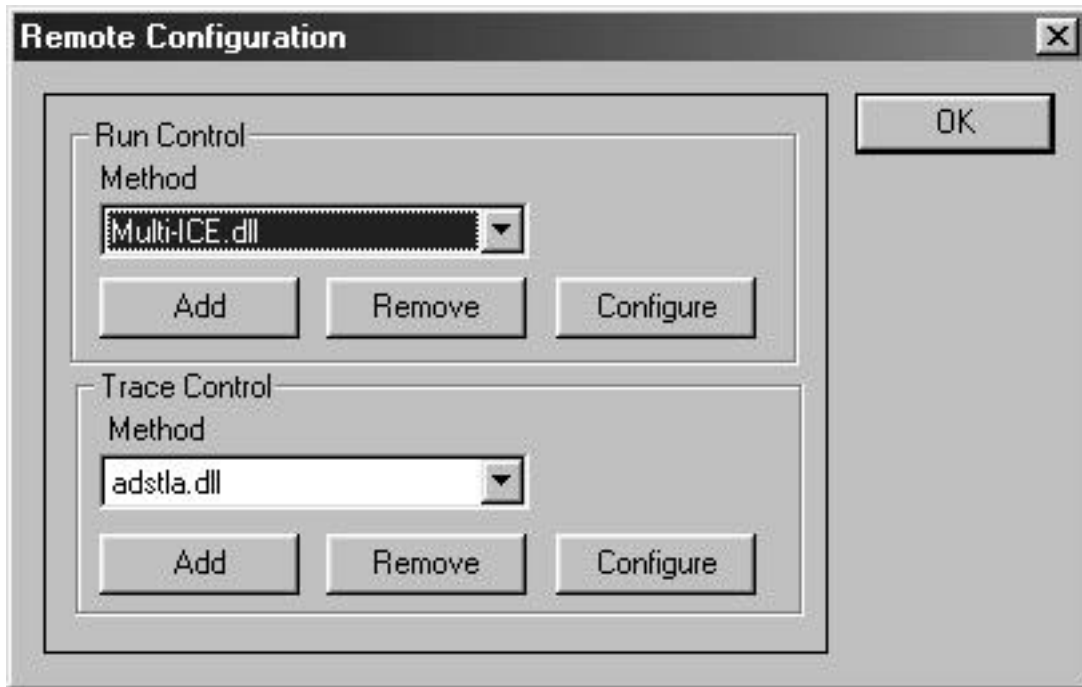

Figure 5: Remote Configuration
5. With the “TRACE.DLL” selected, click on the **Configure** button in the dialogue window. A second **Remote Configuration** dialogue window will appear as shown below in Figure 5.